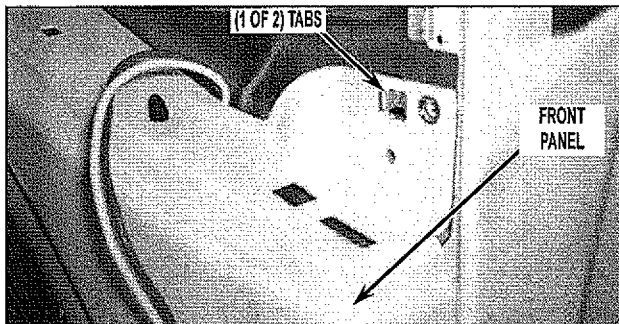

FIGURE 8
- Remove front panel assembly from dryer by lifting front panel assembly off tabs (one each side). See *Figure 8*.